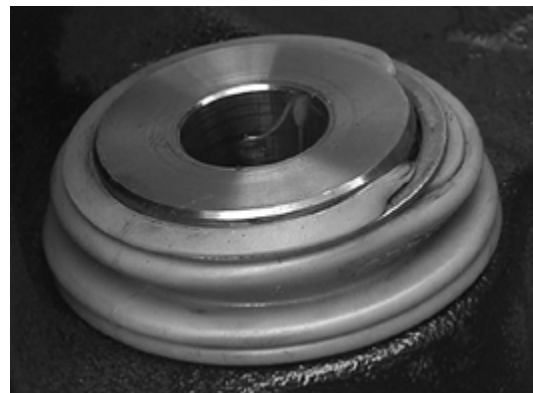

Figure 62: Improper seating of guide pin boot on guide pin
IMPORTANT: Make sure the metal ring does not come off the guide pin boot in the process (Figure 62).
10. **Ensure** the exposed edge of the guide pin boots have an even and wrinkle-free seat in the boot seat of the guide pin and brake caliper (Figure 62 and Figure 25 on page 17).